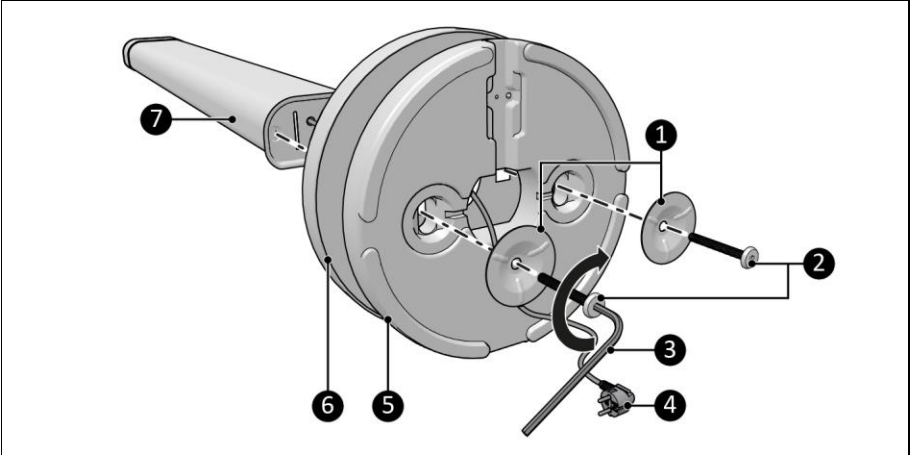

Figure 6
1. Lay the main body down on a steady surface (Figure 6, pos. 7).
2. Pull the power plug (Figure 6, pos. 4) through the center opening of the base cover (Figure 6, pos. 6) and the base (Figure 6, pos. 5).
4. Place the washers (Figure 6, pos. 1) and fix the Allen screws (Figure 6, pos. 2) with the included Allen key.